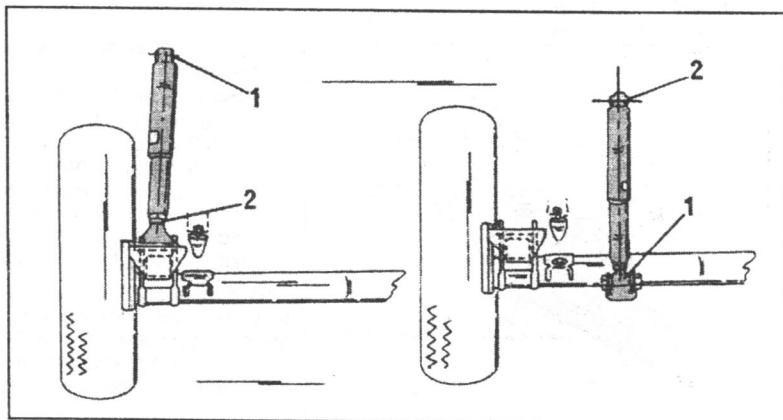

Fig. 7.10. — Fitting arrangement of the shock absorbers. Bolts (1) have a diameter of 10 mm, bolts (2) are 16 mm in diameter.
- Remove the shock absorber mountings at the top and at the bottom. Fig. 7.10 shows how a shock absorber can be fitted, i.e. either directly next to the wheel or further towards the centre.
The installation is a reversal of the removal procedure. Note that the shock absorber bolts have different diameters (see Fig. 7.10). The tightening torque, however, is the same (50 kgm/36 ft.lb.).